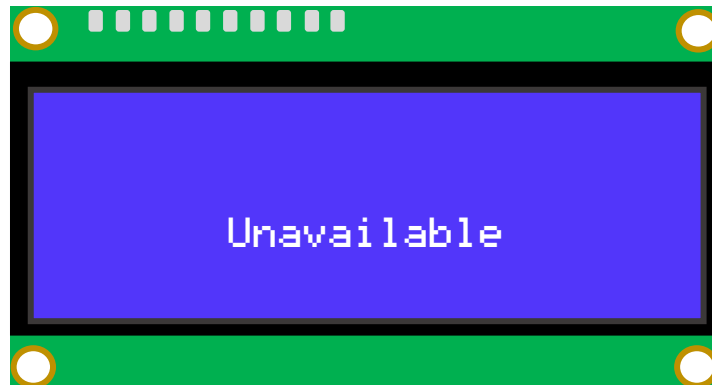

Figure 10 Unavailable Due to OTA Software Updates
8. When the charger gets an OTA software update. It will show the status "Unavailable" on the screen. (Figure 10)